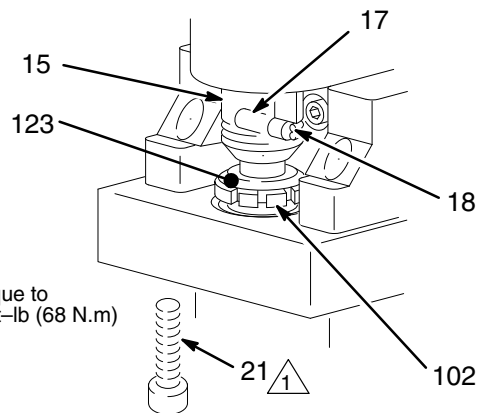

Fig. 18
Installing the pump (See Fig. 18 and 19.)
Be sure the retaining spring (18) is firmly in the groove all the way around, to prevent the pin (17) from working loose due to vibration. See Fig. 18.